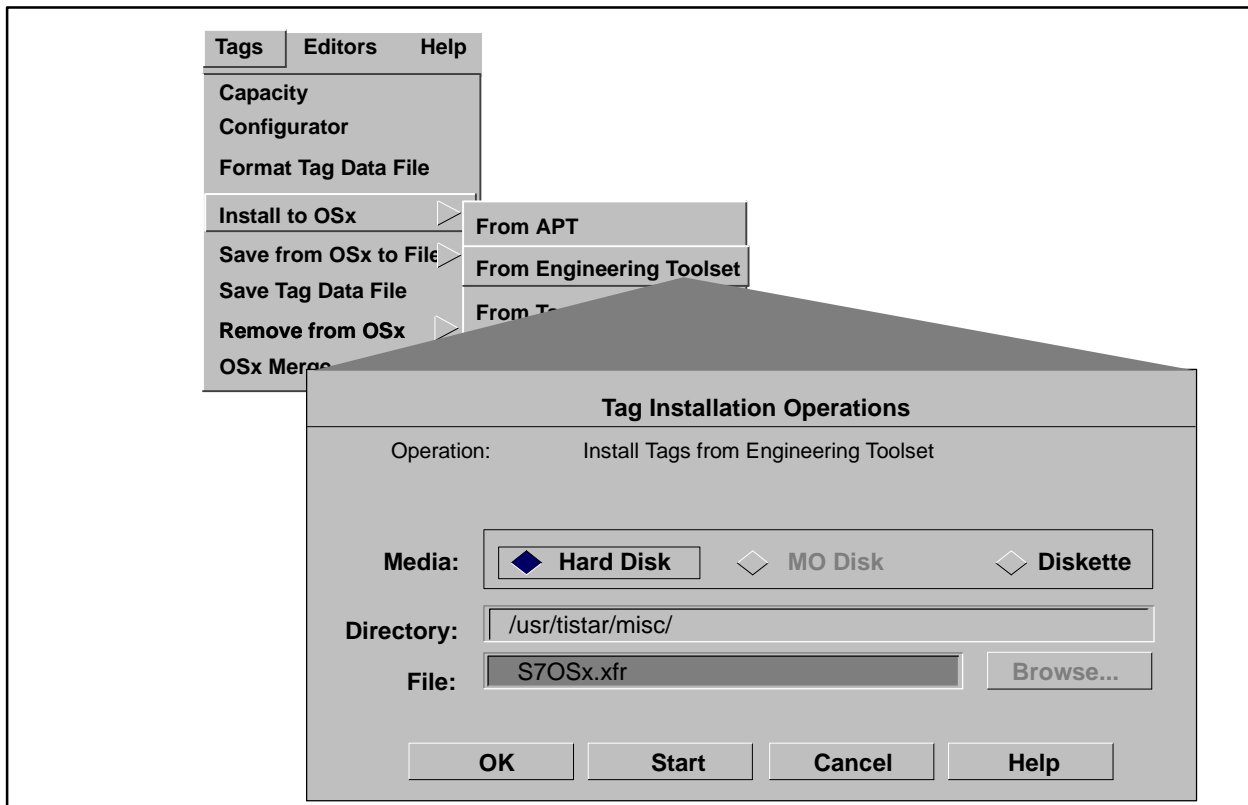

Figure 2-24 Installing Tags from the Engineering Toolset
1. From the OSx main menu bar, select **Tags->Install to OSx->From Engineering Toolset**. The Tag Installation Operations dialog box appears (Figure 2-24).